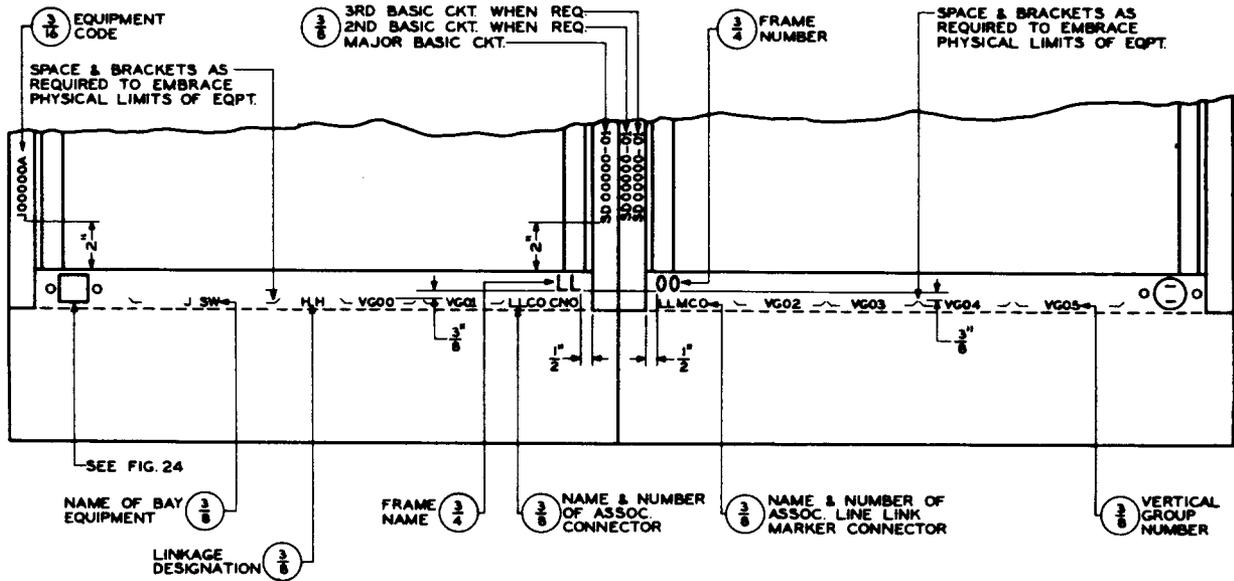

Fig. 15 - Front View of Double-bay, Box-type Basic Frame Base, Two or More Vertical Groups
- On the front slanted face of the frame base with brackets, as required, to embrace the physical limits of equipment, as shown in Fig. 15.